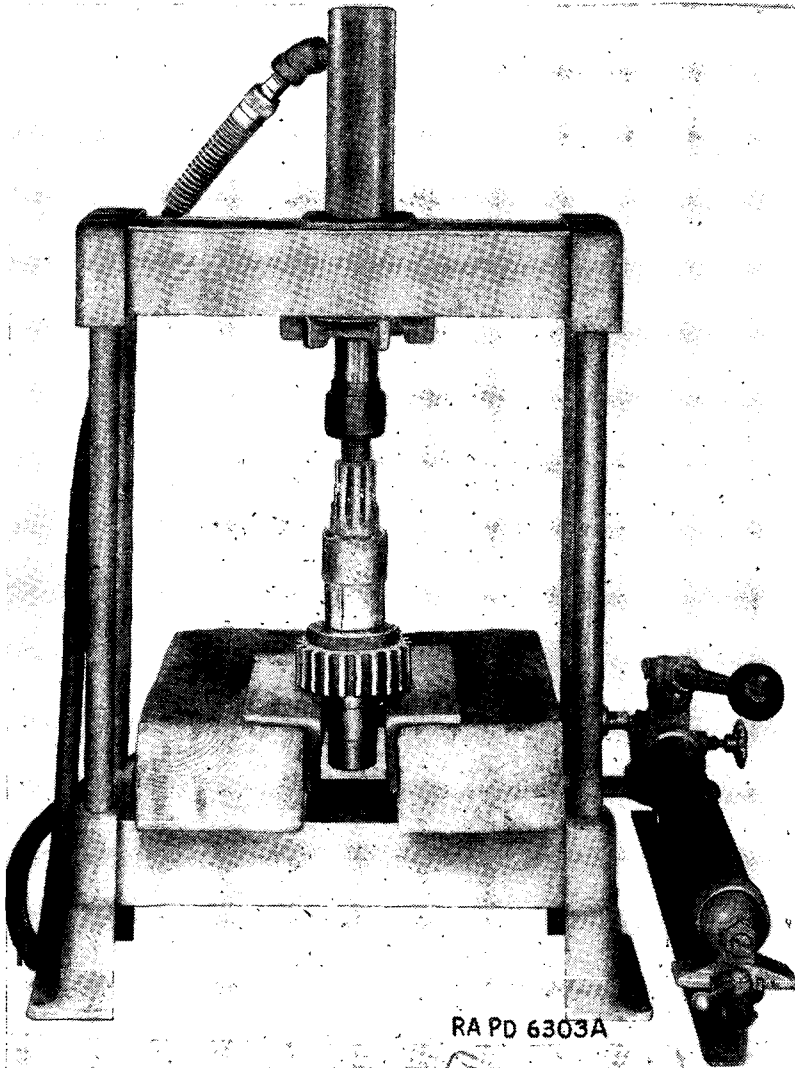

FIGURE 131.—Pressing clutch gear on front drive shaft.
37. Reassembly of components.—*a. Transfer case front drive shaft.*—Replace front-drive shaft clutch gear—brass drift, hammer, press. Replace Woodruff key and set shaft and gear in press and reassemble (fig. 131).